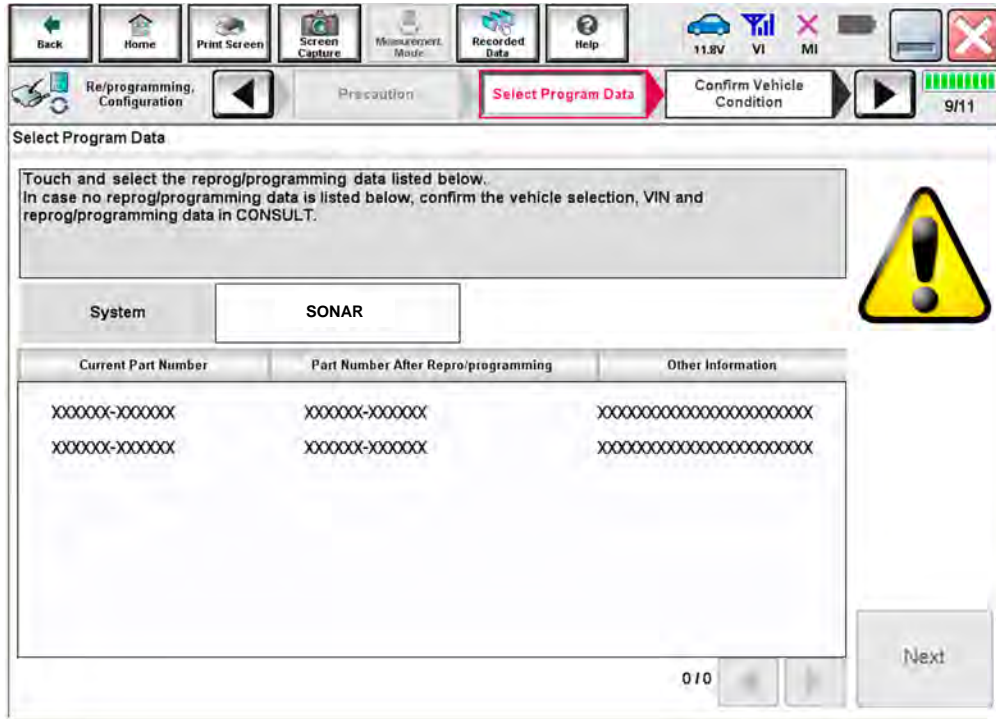

Figure 19
- If the screen in Figure 19 displays, and more than one new part number is available, select and use the reprogramming option that does **not** have the message “Caution! Use ONLY with NTBXX-XXX”.
- If the screen in Figure 19 displays and it is blank (no reprogramming listed), it means there is no reprogramming available for this vehicle. Close C-III plus and refer back to the ESM for further diagnosis.